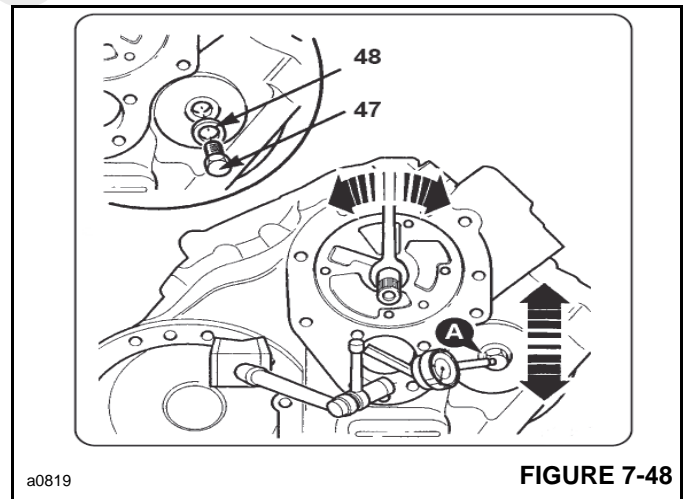

FIGURE 7-48
- a. Remove plug (47, Figure 7-48) and sealing washer 48 from the transmission casing. Discard washer 48.